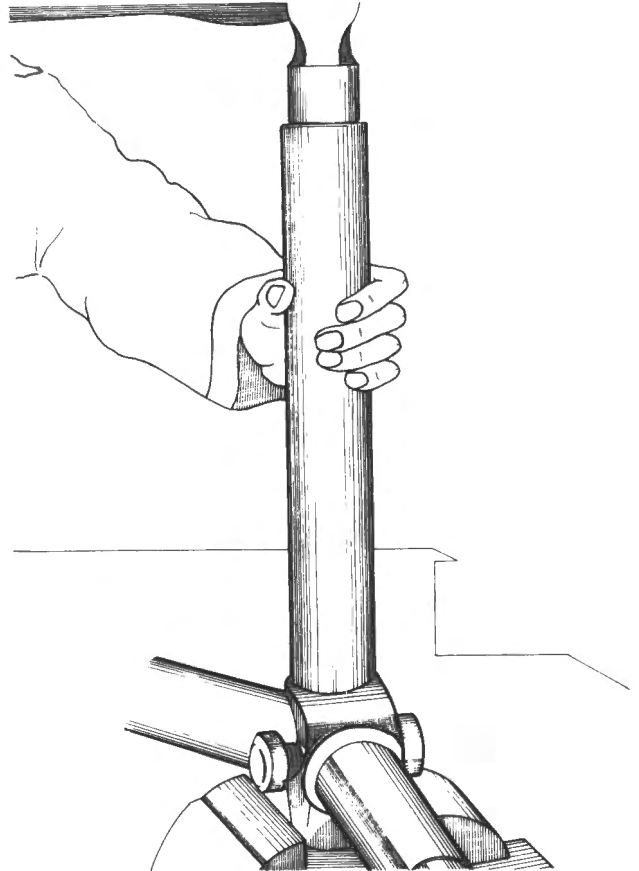

Fig. N-3
- 3 Using a piece of tubing of sufficient inside diameter to clear the bearing, and a hammer, drive downwards on the yoke. Fig. N-3. This will drive the yoke down, causing the cross to force the bearing partially out of the yoke.